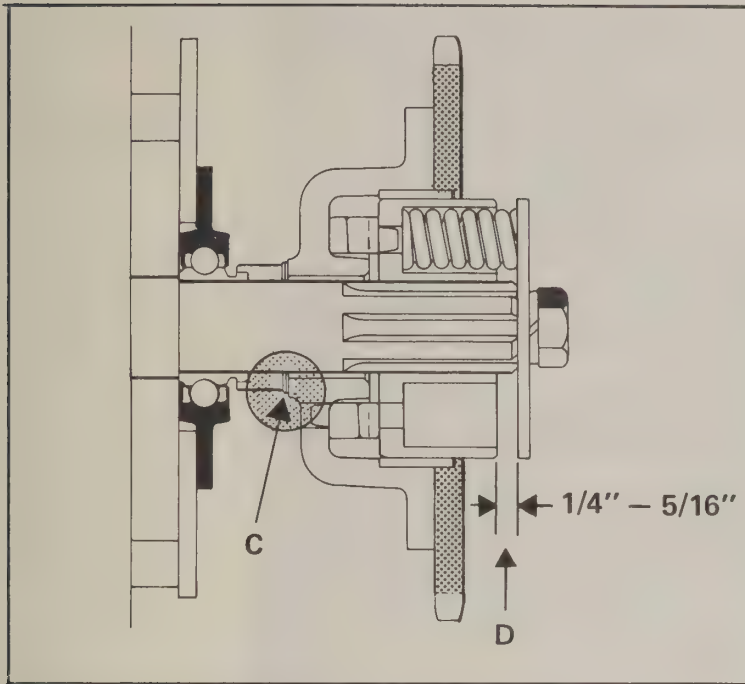

FIG. 11B
6. Measure from inside face of slip clutch plate to outside edge of hub assembly. This dimension at Fig. 11B, position "D" should be 1/4". If more than 1/4" add special washer #1136371; if less, remove washers at Fig. 11B, position "C", as required to get the correct dimension.
Measure distance at "D", Fig. 11B, it should be 1/4" to 5/16". If more or less, remove washers to increase space, add washers to decrease space at "C", Fig. 11B.
To check feeder beater clutch assembly for wear in hub assembly or clutch jaws, remove hub and wash and clean holes for the springs. Clean all dirt from spring coils. Reassemble and adjust (Fig. 11B). Disassemble and clean before the start of each season.